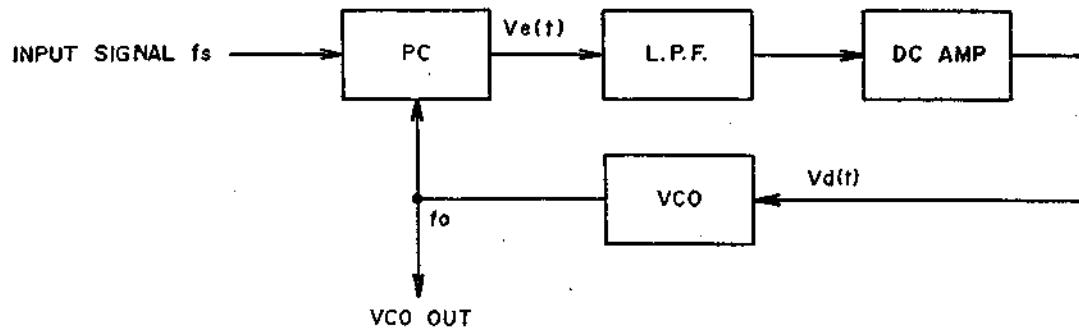
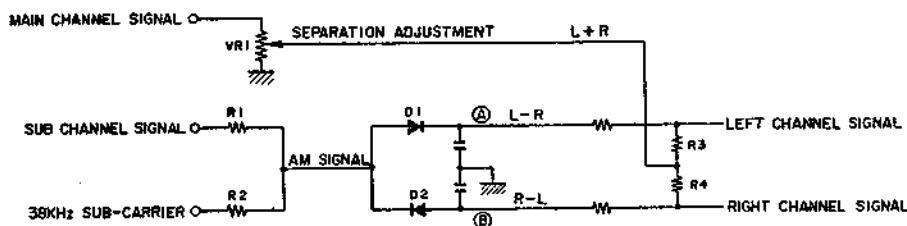

Fig. 13 PLL Circuit
Fig. 16 Multiplex Decoder
PLL circuit is a kind of feedback circuit and is comprised of a Phase Comparator (PC), a Low Pass Filter (LPF), a Direct Current Amplifier (DC Amp), and a Voltage Control Oscillator (VCO) as shown in Fig. 13.
Accordingly, for composite stereo signal demodulation, the sub carrier used for demodulation at the transmitter must be the same uniform 38 kHz signal as the frequency and phase. If the 38 kHz waveform is asymmetrical, channel separation will become poor. At the PLL employed MPX stereo demodulator circuit, as shown in Fig. 13 first a 76 kHz signal is oscillated and when this passes the divider, a symmetrical 38 kHz signal is obtained. This 38 kHz sub carrier is supplied to the multiplex decoder together with the sub channel of the composite stereo signal. At the multiplex decoder, left and right channel audio signals are separated in order as shown in Fig. 16. The 38 kHz sub carrier composed with the sub channel signal of which the carrier part was